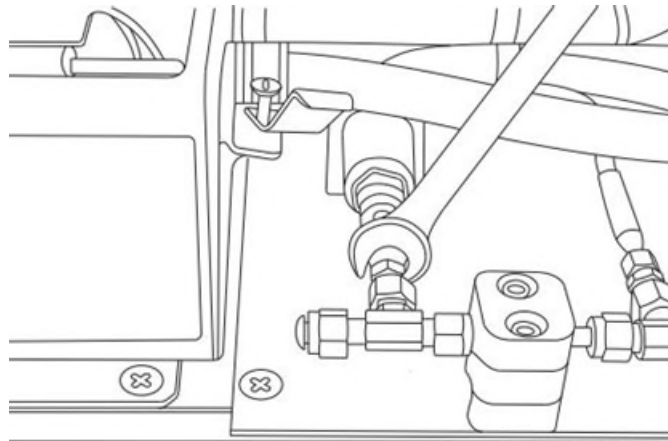

Figure 85. Remove tube nut
- Remove the tube nut on the panel using a 1/2 in. open-end wrench turning “down” away from the analyzer. Refer to Figure 85.